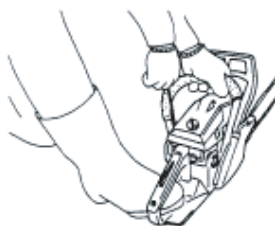

Fig. 13
3. Pull recoil starter briskly, taking care to keep the handle in your grasp and not allowing it to snap back. (Fig. 13)
5. Pull recoil starter briskly again in the aforementioned manner. (Fig. 13)